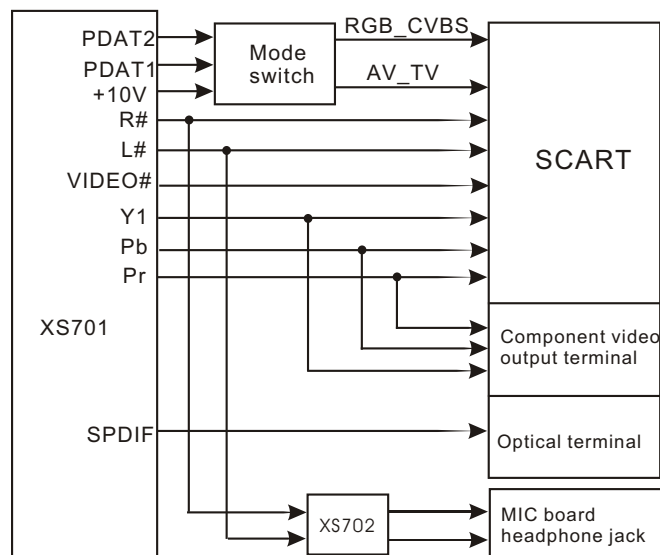

Figure 3.2.15.1 AV output board circuit block diagram
1. AV output board is mainly composed of SCART output terminal, ode switch circuit and filtering circuit. AV output board outputs different signals to connect with the relevant external devices. AV output board circuit block diagram is shown in the figure 3.2.15.1: